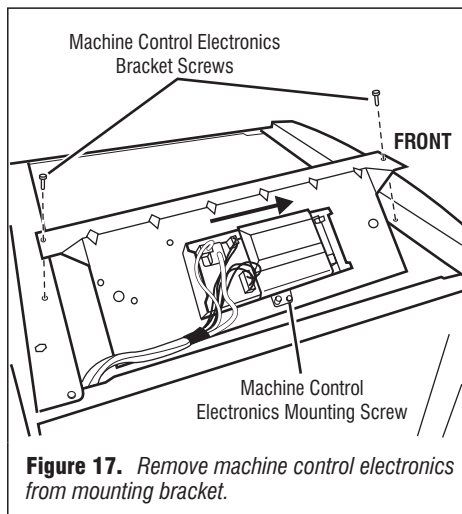
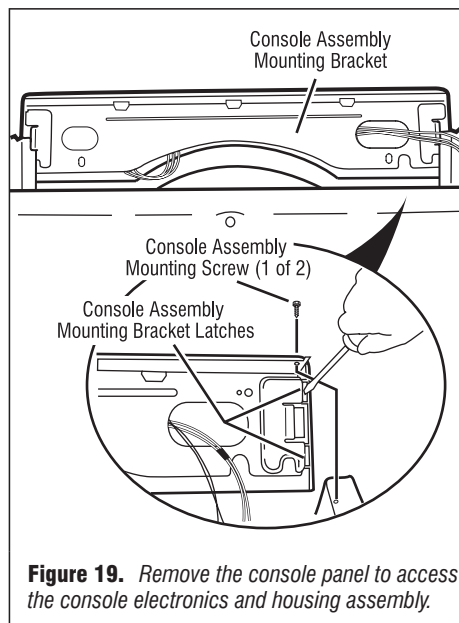

Figure 17. Remove machine control electronics from mounting bracket.
Figure 19. Remove the console panel to access the console electronics and housing assembly.
2. Slide the bracket over the top of the drum to access the machine control electronics connectors and mounting screw. See figure 17.
4. Remove the screw holding the machine control electronics assembly to the mounting bracket. See figure 17.
2. Remove the screw that fastens the assembly to the machine control mounting bracket (figure 17), and the two screws that fasten the console assembly to the dryer (figure 19).
4. Slide the console up and off of the dryer. See figure 19.
5. The console mounting bracket is fastened to the console front panel with two latches at both sides of the console assembly. Unlatch the bracket gently with a screwdriver while pulling the mounting bracket assembly out. See figure 19.